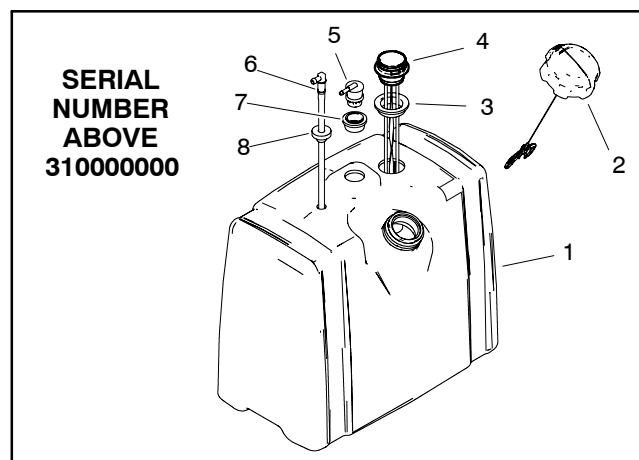

Figure 5
6. On machine with serial number above 310000000, remove components from fuel tank as needed using Figure 5 as a guide.
1. On machine with serial number above 310000000, install all removed components to fuel tank using Figure 5 as a guide.